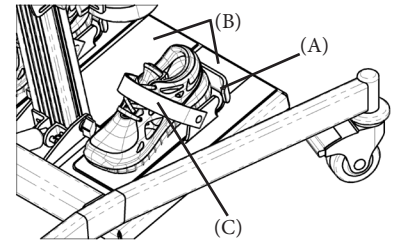

Fig. 10.2.8
The footrests (A) are attached with self-gripping straps (B), allowing them to be moved to the ideal position for the user. Once positioned, detach the self-gripping strap (C) and slide the foot inside the footrest (A). Secure the foot using the self-gripping strap (C) by folding it over the top of the foot near the ankle (Fig. 10.2.8).